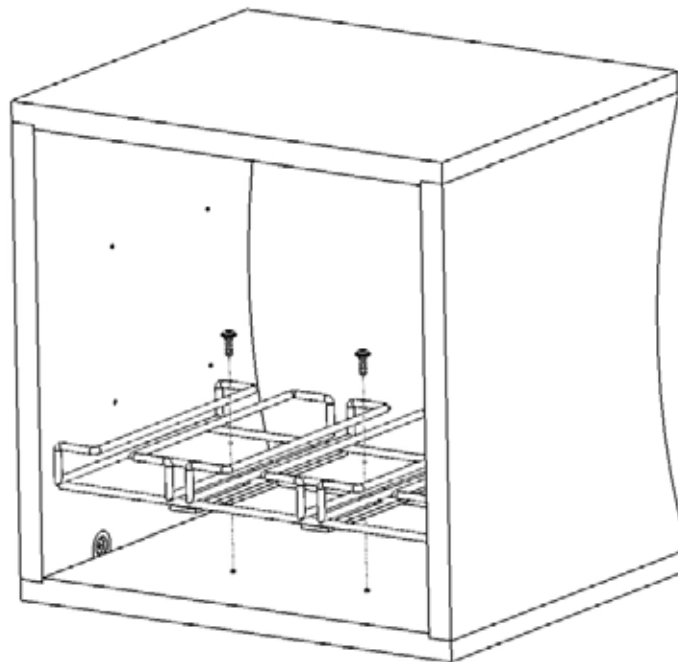

Figure 1
1. Lay the wave cube upside down so the top of the cube is facing towards the ground (**Figure 1**).
3. Attach the stemware rack with the round head washer screws provided (**Figure 1**).